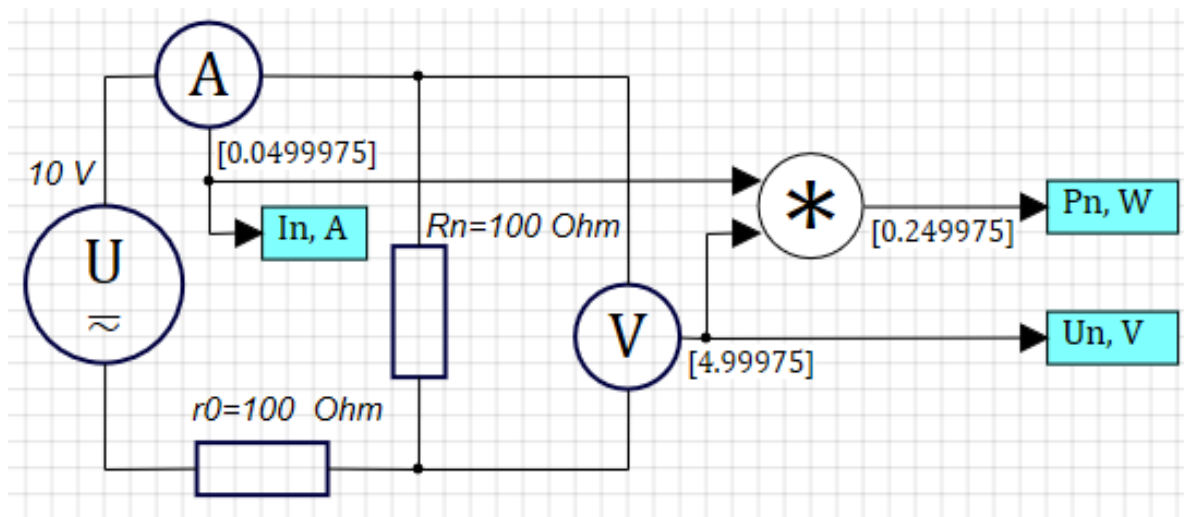

Figure 2.5
Figure 2.5 shows the simulation results for the resistance value of the right block of the **RLC-circuit** – $R_n = 100 \text{ Ohm}$.
4. Conduct a simulation for the circuit Figure 2.5, setting the constant component of the source voltage in volts equal to the number of the variant, and the value of the internal resistance r_0 and the load resistance R_n in ohms equal to the number of the variant plus 50.